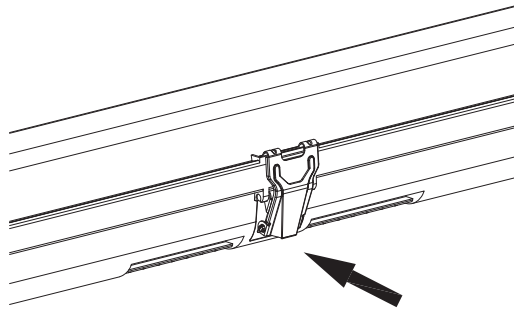

Fig. 4
6. Fasten and secure lens cover using latches (Fig. 4).